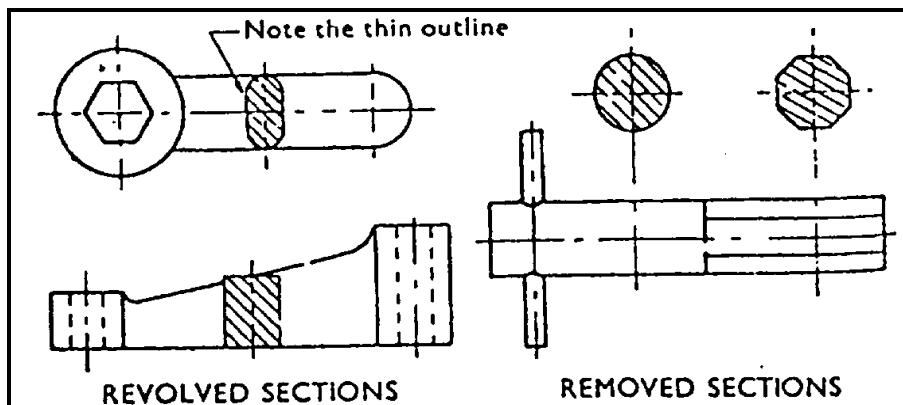

Figure 29
(7) Revolved Section: These section enable the cross section of the component to be shown on an outside view. The cutting plane is revolved through 90° as shown in Fig. 29.
(8) Cross-Hatching or Section Lining: To make the cut surface easier to visualise, symbolic lines are drawn as shown in the examples.